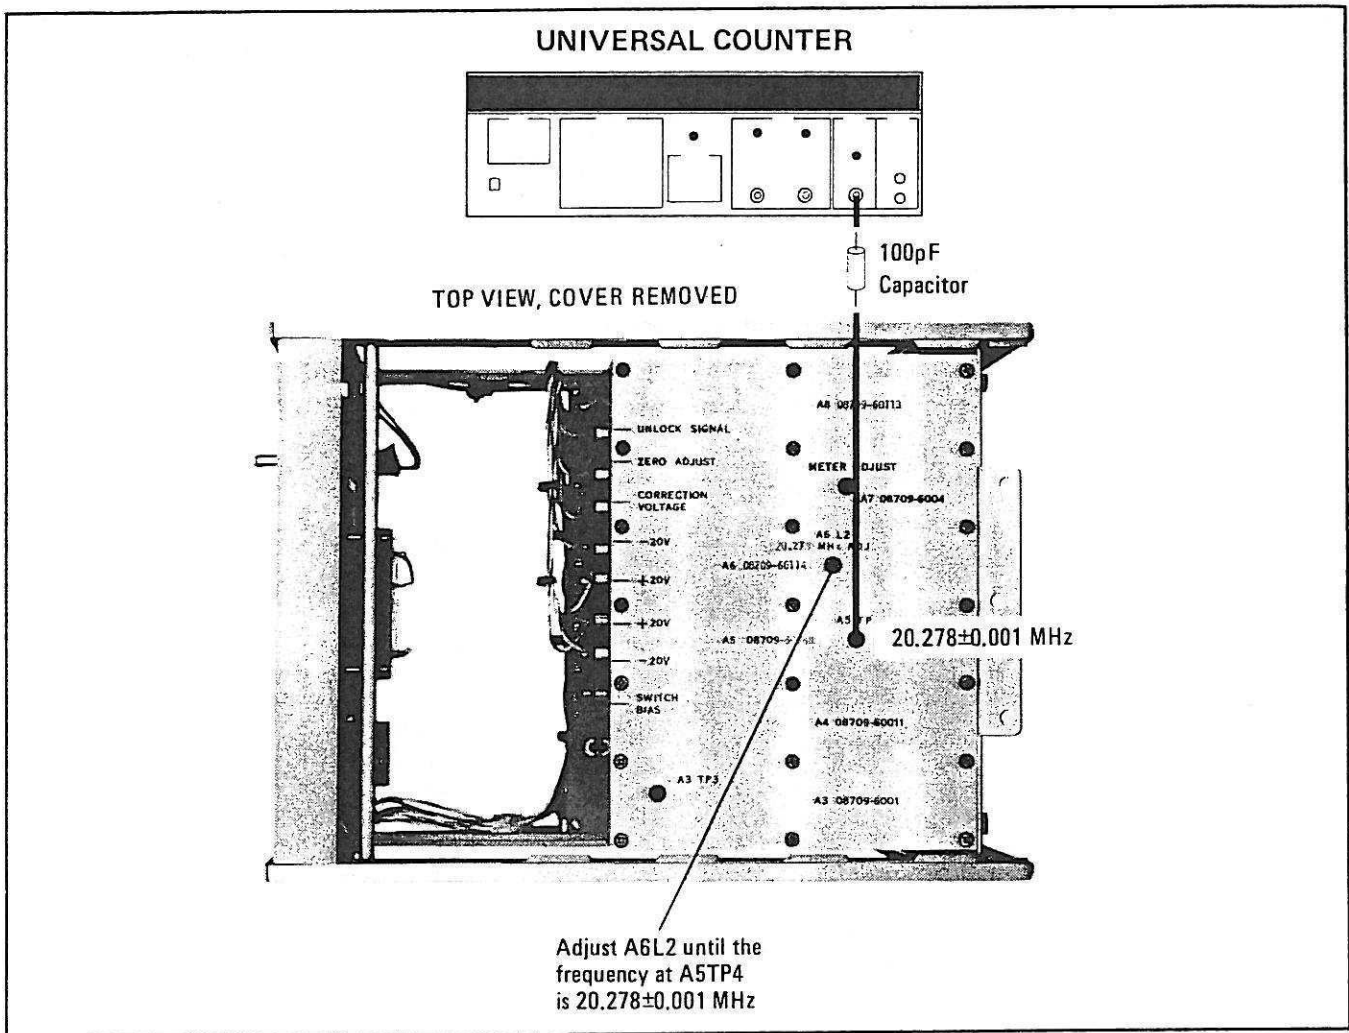

Figure 5-3. HP 8709B Oscillator Frequency Adjustment
1. With the power cable disconnected, remove the top cover from the HP 8709B. Locate test point A5TP4 and adjustment point A6L2, as shown in Figure 5-3. Component A6L2 is an adjustable inductor, but only the adjustment access hole in a cover plate is visible at this level of disassembly.